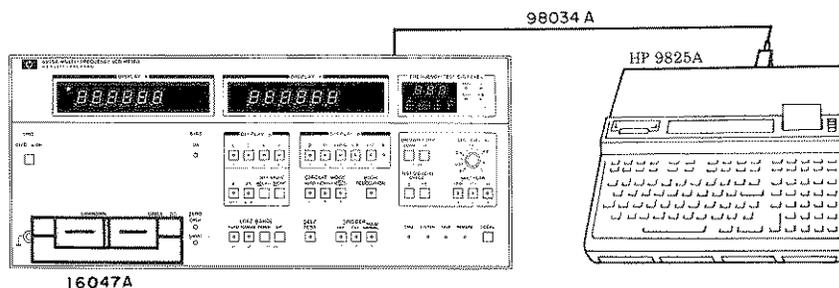

Figure 4-9. HP-IB Interface Test Setup.
2. Connect 98034A Interface Card with cable between 9825A I/O slot and 4275A rear panel HP-IB connector as shown in Figure 4-9.